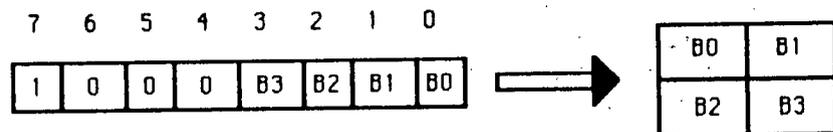

Figure 2 - Ideal Bit-mapping
(1) The set is complete - this means that all 16 combinations are available and (2) The set is logically ordered with bit-mapping as shown in Figure 2.